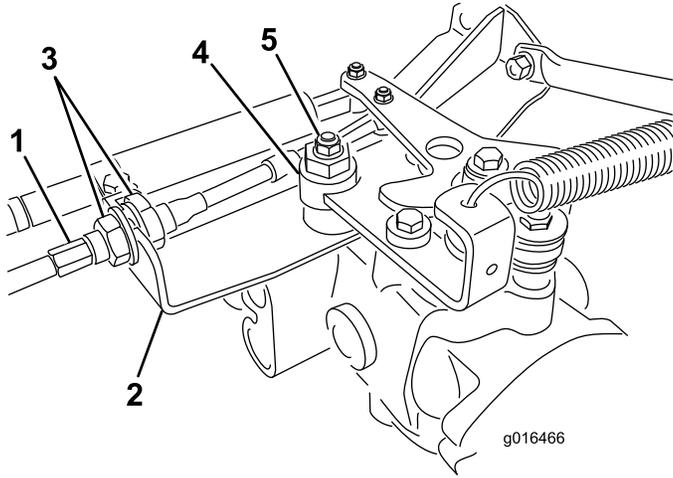

Figure 46
- Loosen both jam nuts securing the traction-control cable to the bulkhead on the hydrostat (Figure 46). Ensure that the jam
Note: Loosen the nut securing the eccentric to the top of the hydrostat (Figure 46).
- E. When the wheel stops rotating, tighten the nut locking the eccentric and the adjustment (Figure 46).
- G. From each side of the bulkhead, tighten the locknuts evenly, securing the traction cable to the bulkhead (Figure 46). Do not twist the cable.